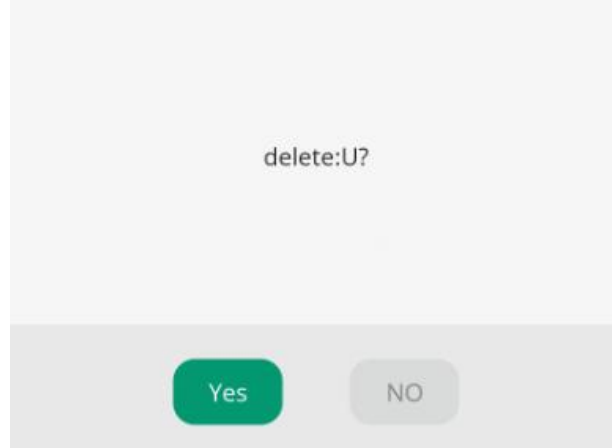

Figure 5-11 Delete User
- **Delete:** User could click **delete** key to delete the selected user in the list, as shown in figure 5-11.